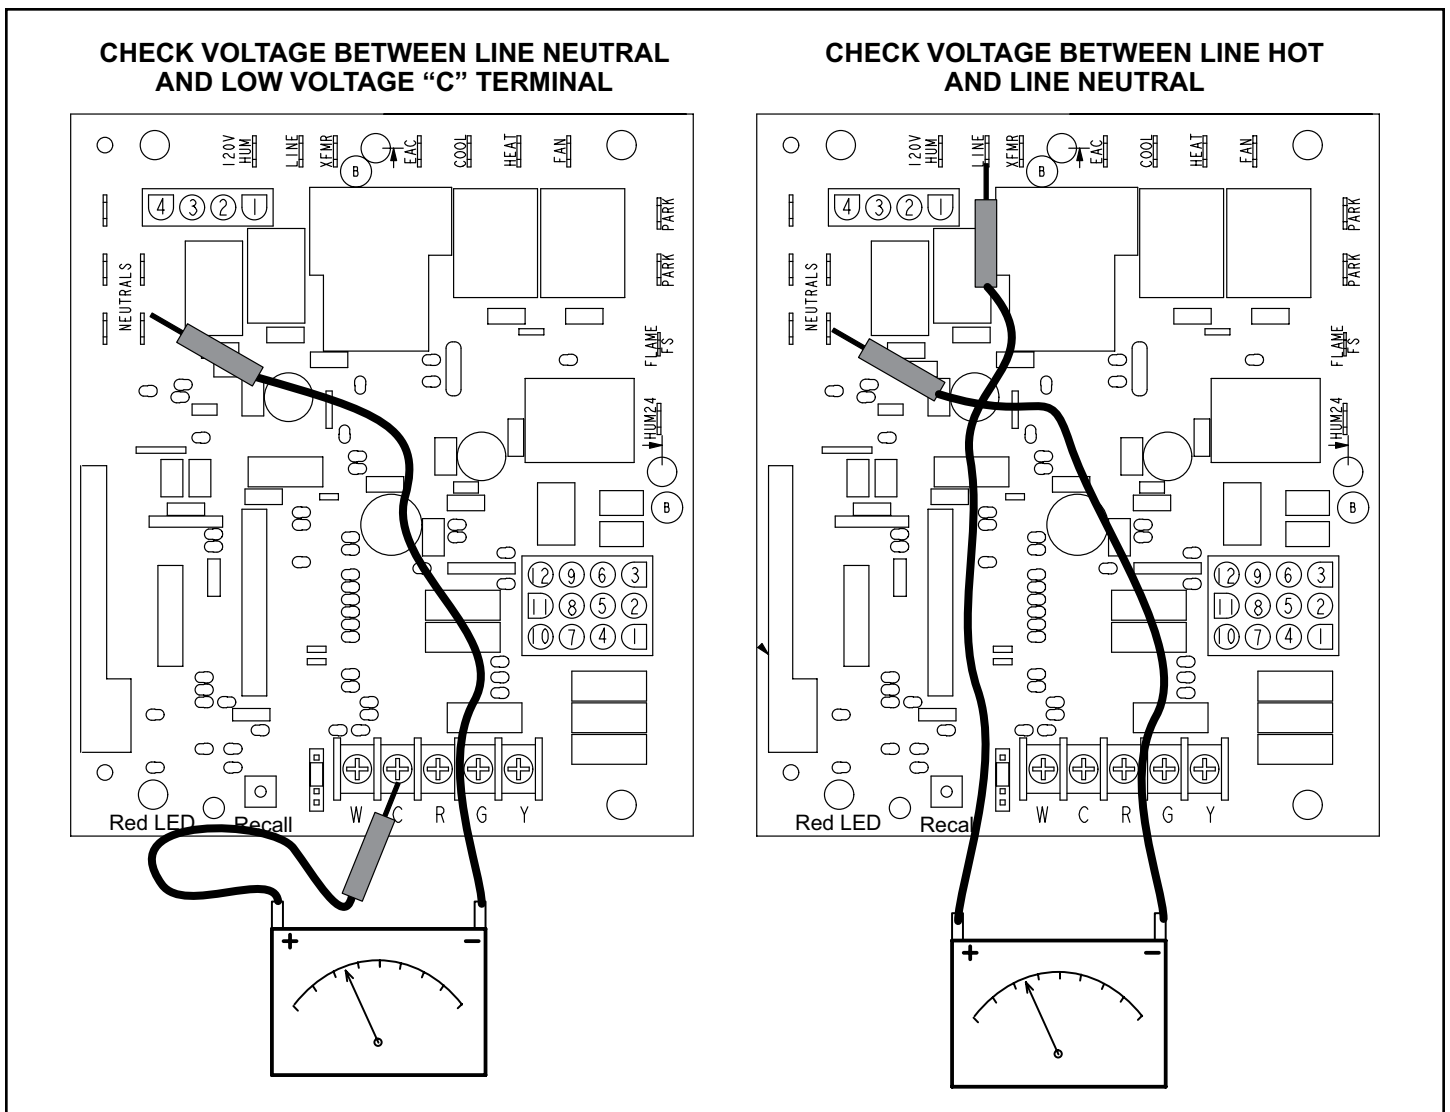

Figure 56.
1. Measure the AC voltage between Line Neutral (spade terminals) and "C" terminal (low voltage terminal block) on the integrated control. See Figure 56. A wide variation in the voltage between Line Neutral and "C"
2. In addition, measure the AC voltage from Line Hot to Line Neutral (spade terminals) on the integrated control. See Figure 56. This voltage should be in the range of 97 to 132 VAC
Blower speed tap changes are made on the integrated control. See Figure 3 or Figure 56. The heating tap is connected to the "HEAT" terminal and the cooling tap is connected to the "COOL" terminal. On all units the continuous blower tap is connected to the "FAN" terminal. Unused taps must be secured on two dummy terminals labeled "PARK". To change out existing speed tap, turn off power and switch out speed tap with tap connected to "PARK". See blower speed tap table on unit diagram for motor tap colors for each speed.